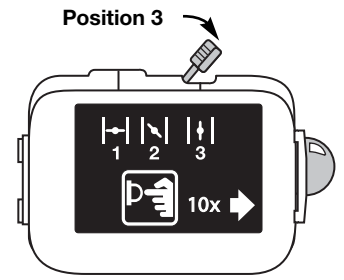

Fig. 10
10. Place the blue choke lever in **Position 3** (Fig. 10). The unit is ready for use.